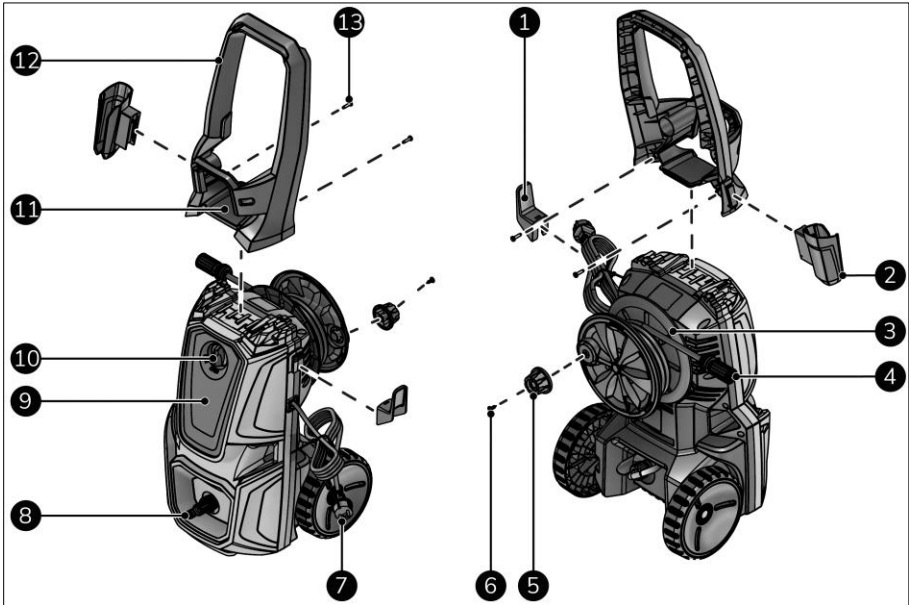

Figure 5
This EUROM device is an easy-to-use high-pressure cleaner (Figure 5). The device is designed for household use, such as cleaning vehicles, buildings, terraces, facades and garden equipment. The device uses clean water and can be used with biodegradable chemical detergents.
1. Make sure the ON(I)/OFF(0) switch is in the OFF(0) position (Figure 5, pos. 10).